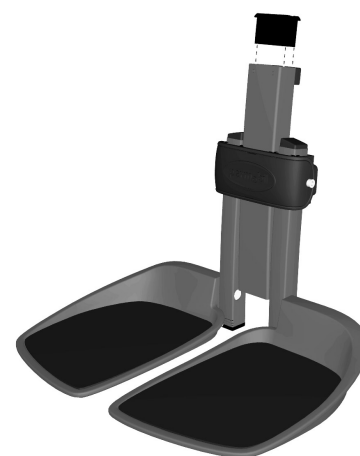

Figure 140. Slide bushing in the lower section of the leg rest.
1. Fit the slide bushing in the lower section of the leg rest, making sure the locking tabs on the bushing are securely fixed in the hole in the leg rest. See fig. 140.